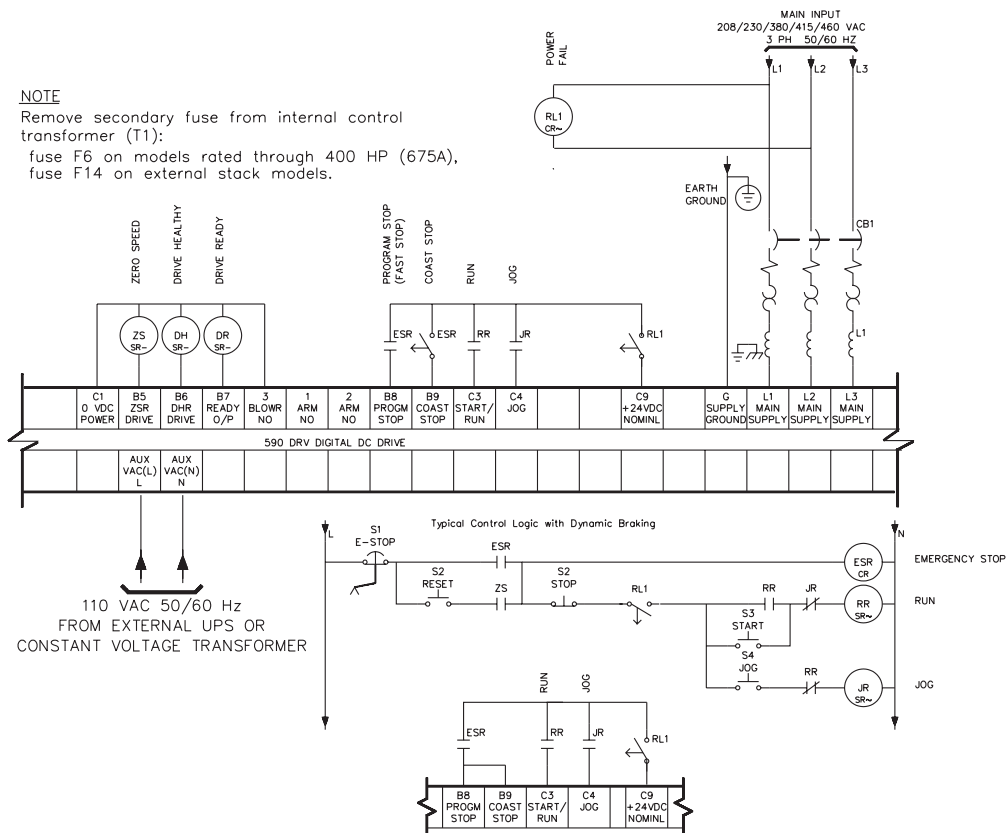

Figure 6 - Supplying Control Power to a 590 DRV for Power Loss Ride Through
2. If you wish to extend the drive's power-loss alarm delay time beyond two seconds, contact Eurotherm Drives Customer Service for assistance. Add an independent time-out circuit to the drive's start-stop circuitry, as shown in Figure 6. Set the timer for no longer than the amount of time the system can maintain adequate control during a power loss.
3. Add an independent time-out circuit to initiate a normal stop to *all* system processes. (You may do this using a contactor or relay whose coil is rated for the main voltage voltage. Refer to Figure 6.) Set the timer for no longer than the amount of time the system can maintain adequate control during a power loss.